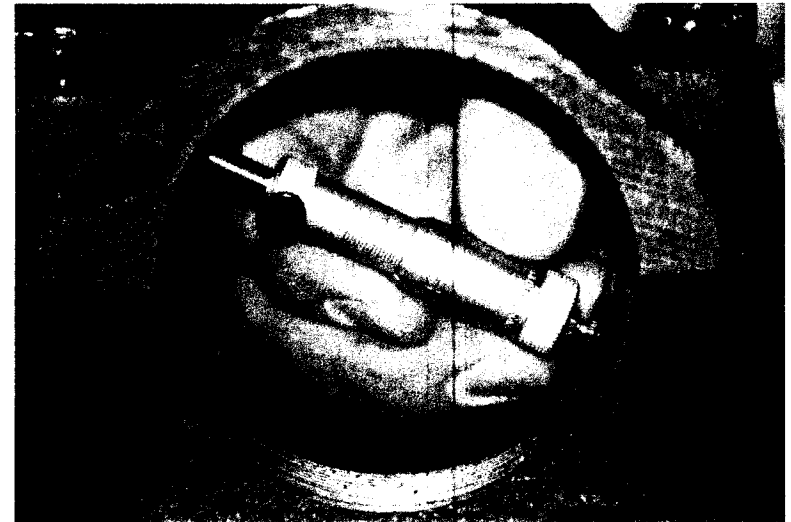

FIGURE 2
2. With the differential case, ring gear, and carrier bearings removed from the carrier, install a carrier bearing cap and torque to manufacturer's specification. Measure with an inside micrometer and record the bore dimension, "A" in the worksheet. See Figure 2 and Figure 7. This measurement can be taken with a dial caliper, however, accuracy is lower.